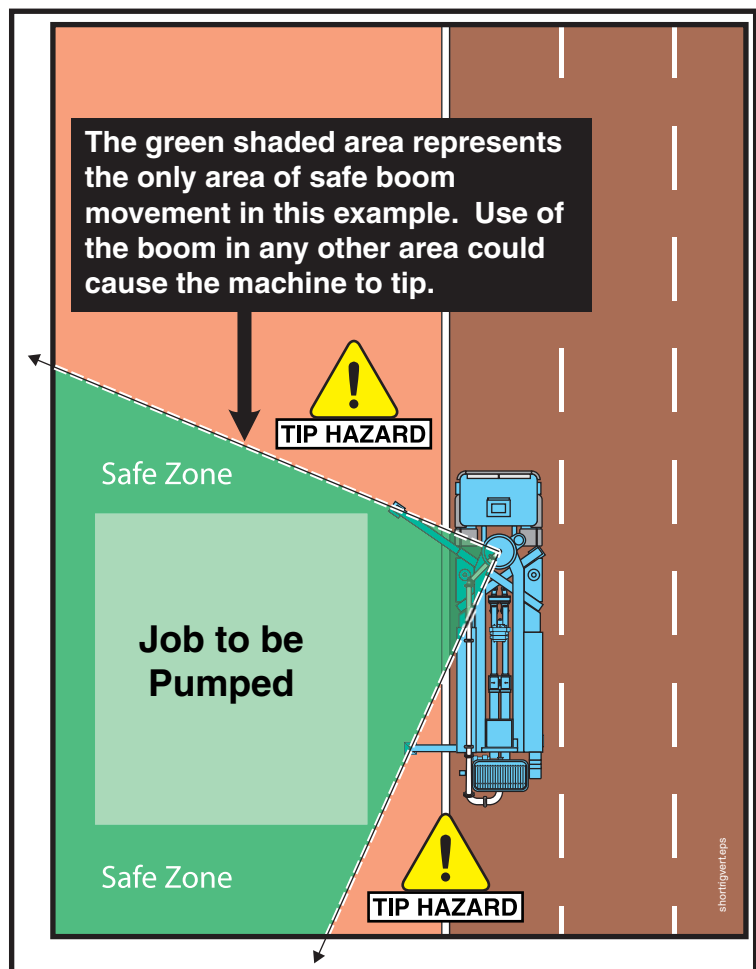

Figure 25
6.22 **⚠ WARNING** If you set up the unit with one or more outriggers not fully extended on the side away from the pour (shortrigging), you will tip the machine if you forget and rotate the boom over the side with the unextended outriggers. That being said, it is known that under certain circumstances, shortrigging is unavoidable (see Figure 25). If no alternatives are practical and you must shortrig for a particular job, keep these points in mind.